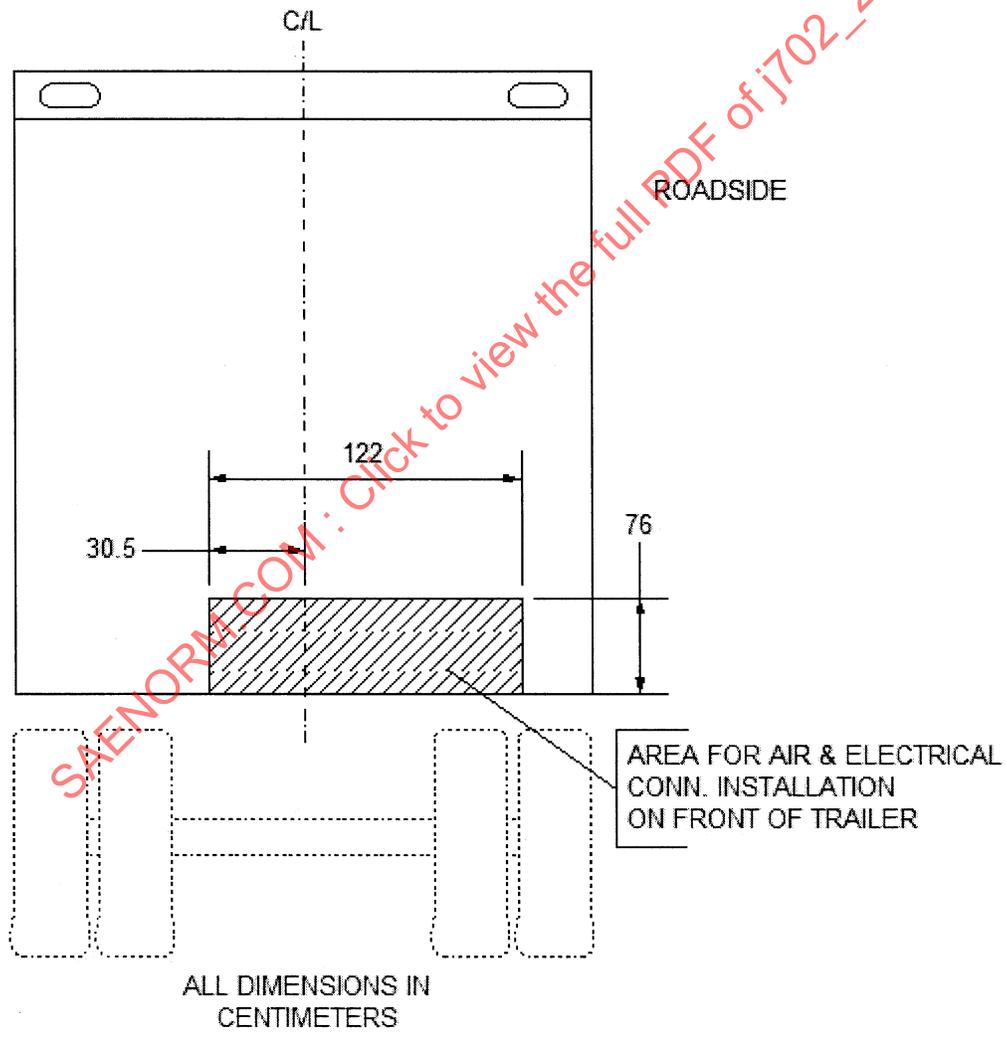

FIGURE 2—FRONT OF TRAILER - RECOMMENDED LOCATION
**4.1 Brake Connections**—Trailer-mounted air hose couplings should be mounted on the front within the area shown in Figure 2. For ergonomic reasons, connections should be mounted as low and as far roadside as possible.